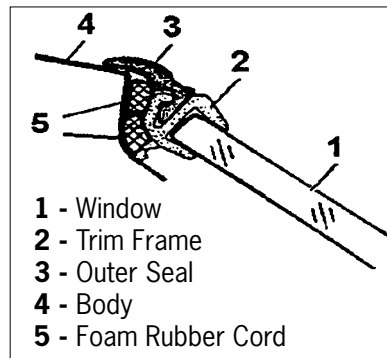
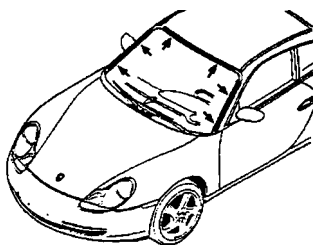

Figure 3
Figure 4
2. If necessary, pull the outer seal (Figure 3, Item 3) off of the trim frame (Figure 3, Item 2) on the windshield or rear window.
4. Insert **two layers** of foam rubber cord (Figure 3, Item 5) into the gap, at the top and sides of the windshield or rear window (see Figures 4 and 5). Press them in completely using a plastic spatula.
Note: If the outer seal (Figure 3, Item 3) does not need replacement, lift the lip of the outer seal with plastic spatulas so water can be applied to the gap (for the insertion of the foam rubber cord).